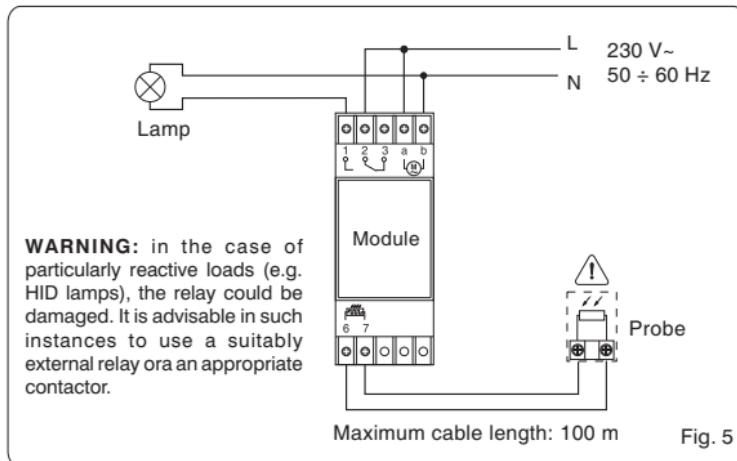

Fig. 5
- Connect the load as indicated in figure 5:
- Neutral (N) directly to the lamp
- Insert the cable into the connector and connect to the terminals (fig. 5).